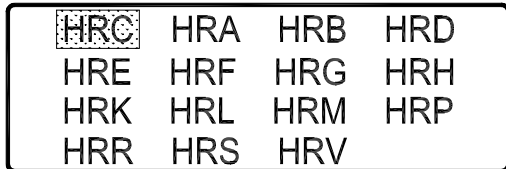

Figure 1
* Set out to correct. Under the initial menu status, continuously press “ENTER”, “ENTER”, “ ” and “ENTER” key in turn; picture of figure 1 displaying at this moment indicates that correcting status has entered.
* Press “MENU”, screen will back to figure 1; other selection can be made to correct other scales.